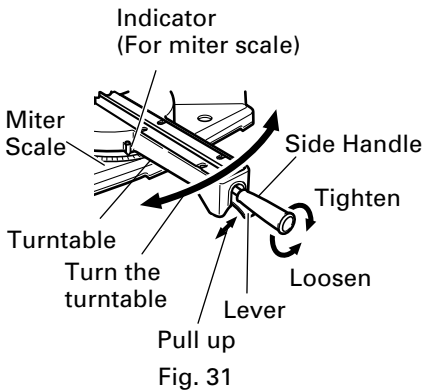
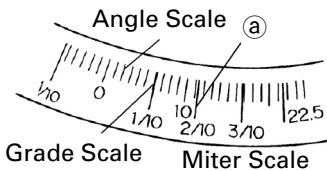

Fig. 31
Fig. 32
- (1) Loosen the side handle and pull up the lever for angle stoppers. Then, adjust the turntable until the indicator aligns with desired setting on the miter scale (Fig. 31).
- (2) Re-tighten the side handle to secure the turntable in the desired position.
- (3) The miter scale (Fig. 32) indicates both the cutting angle on the angle scale and the gradient on the grade scale.
- (5) Therefore, to cut a workpiece at a grade of 2/10, set the indicator to position (a) as indicated in Fig. 32.